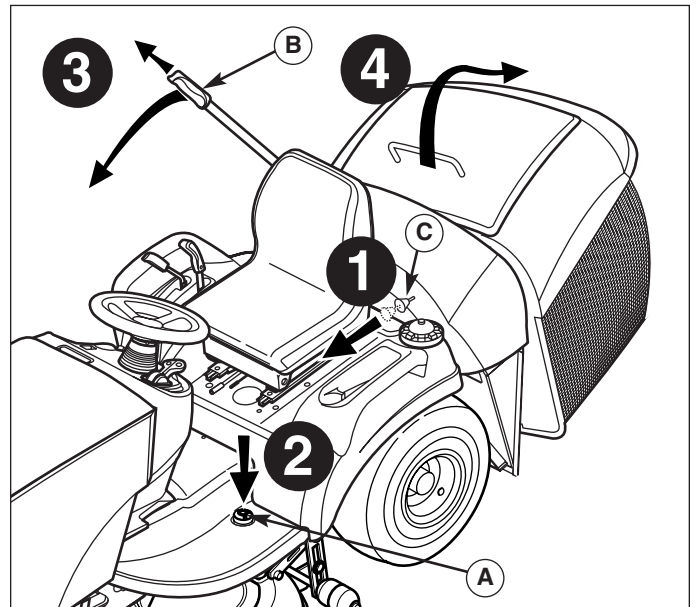

Figure 13. Emptying the Hopper
1. Move the catcher removal knob (C, Figure 13) forward to unlock the catcher from the rear support arms.
2. Depress the catcher dump lock pedal (A).
3. Use the catcher lever (B) to open the catcher slightly.